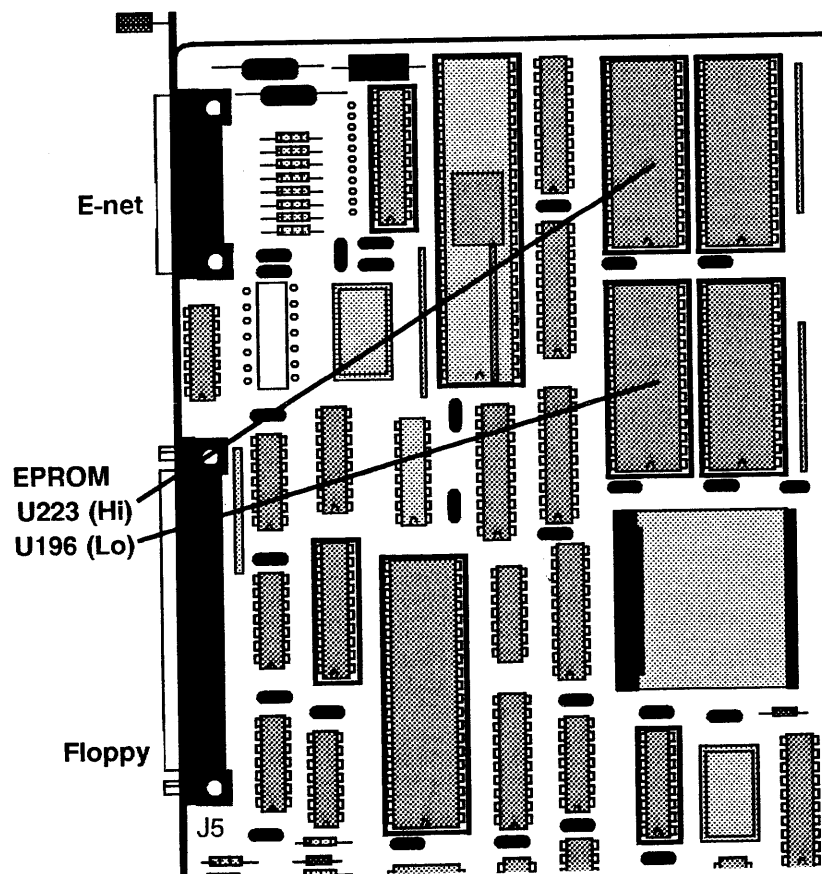

Figure 10. Boot PROM Locations
6. Locate either the Boot or RDC PROMs (whichever you have been directed to replace) on the IOP PWB (Figure 10 or 11) and remove them using the IC Chip removal procedure (4.17).